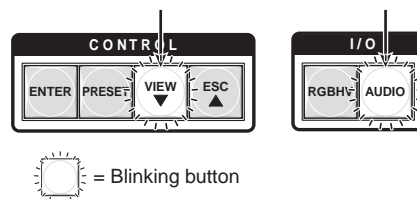

Figure 3-80 — RS-232/RS-422 and baud rate selection
3. **To change a value**, press and release the button that relates to the desired value (figure 3-80).